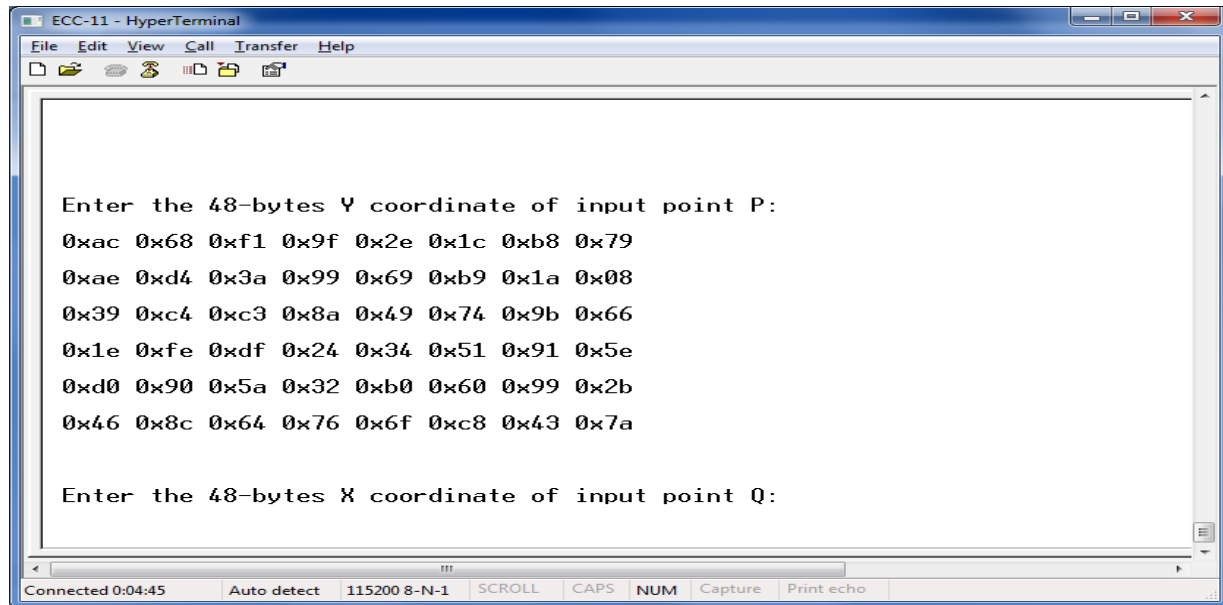
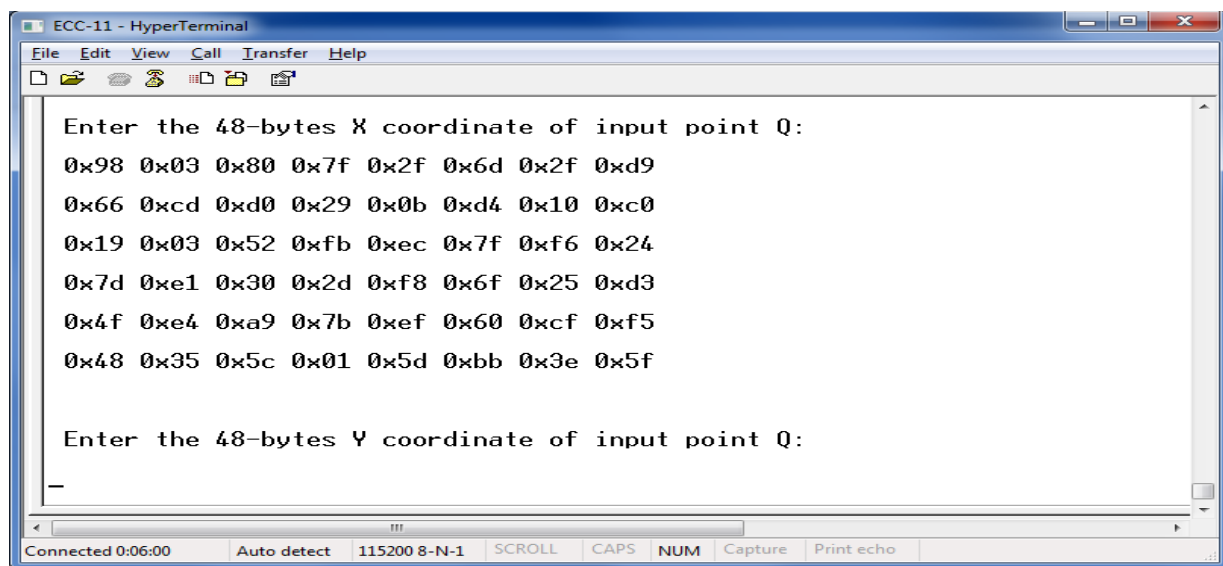

Figure 10 • Point Addition Input P
Figure 11 • Point Addition Input
3. Enter the Y Coordinate of P (Py), X and Y coordinates of Q (Qx, Qy) as shown in Figure 10 on page 13, Figure 11 on page 13, and Figure 12 on page 14.
Figure 10 shows the Y Coordinate of P.
Figure 11 shows the X Coordinate of Q.